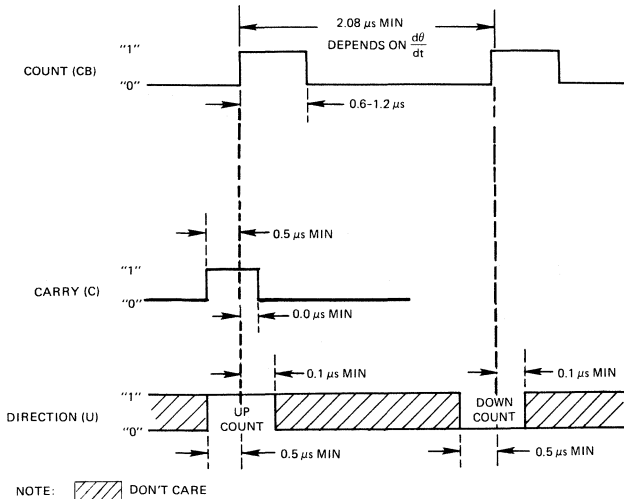

FIGURE 2. TIMING DIAGRAM
Figure 2 shows the timing waveforms of the converter. Whenever an input angle change occurs, the converter changes the digital angle in steps of 1 LSB, and generates a count pulse (CB). The CB is a positive pulse 0.6 to 1.2 μsec long.